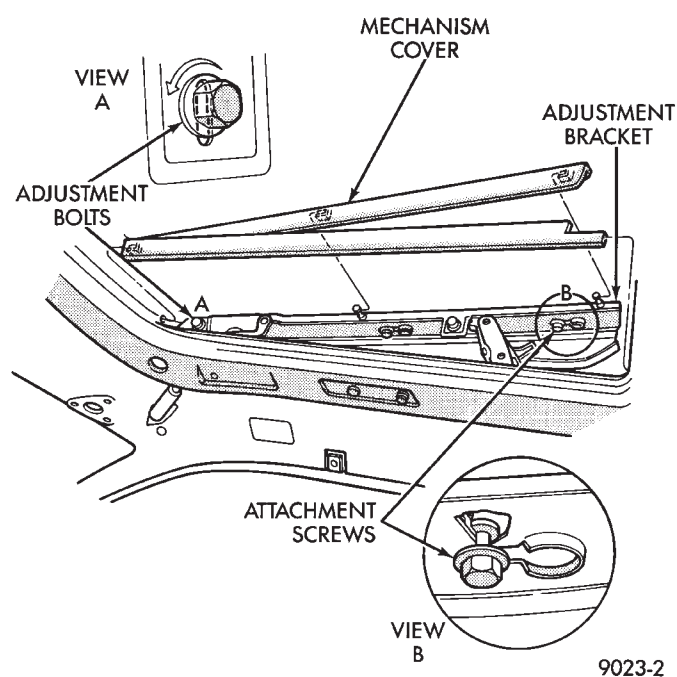

Fig. 1 Glass Adjustment
GLASS VERTICAL ADJUSTMENT (FIG. 1)
- (1) Remove wind deflector mechanism covers (Fig. 1).
- (2) Position glass to vent position.
- (3) Position sunshade full rearward.
- (4) Loosen nuts holding glass panel to side adjustment brackets.
- (5) Slide glass panel rearward 12 mm (0.5 in.) and separate glass from sunroof unit.